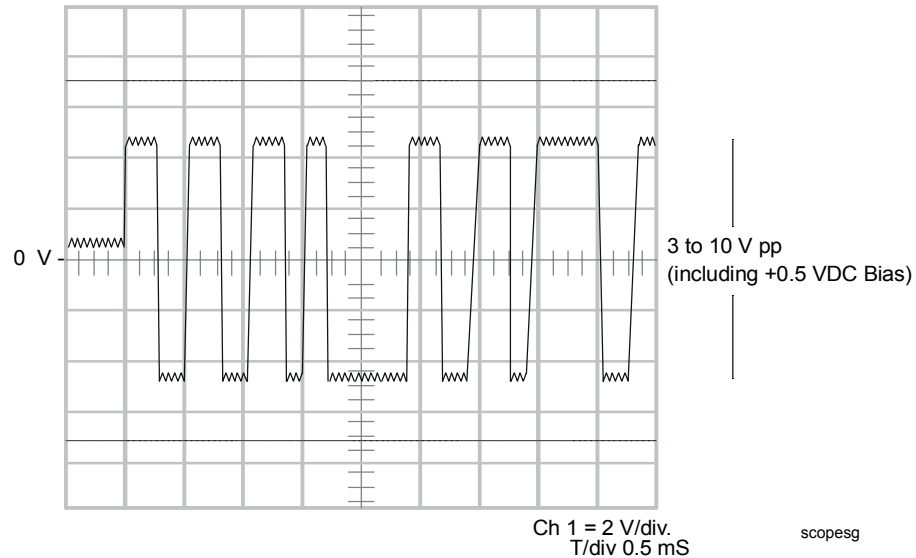

Figure 33: N2Bus Signal as Measured with Oscilloscope
7. Compare the signal you measure with the waveform in Figure 33. They should resemble the figure. A signal outside this range indicates that the N2 Bus is not functioning properly.